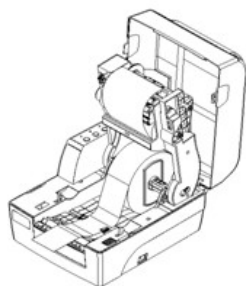
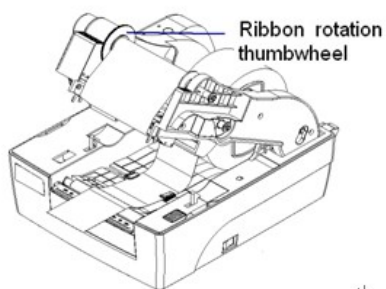

Figure 2.3.3
Figure 2.3.4
- 3) Lead the front end of ribbon go under the TPH and rewind it onto the ribbon retraction shaft (see figure 2.3.3). Turn the ribbon wheel to tight it up (the loaded paper roll and ribbon see figure 2.3.4);